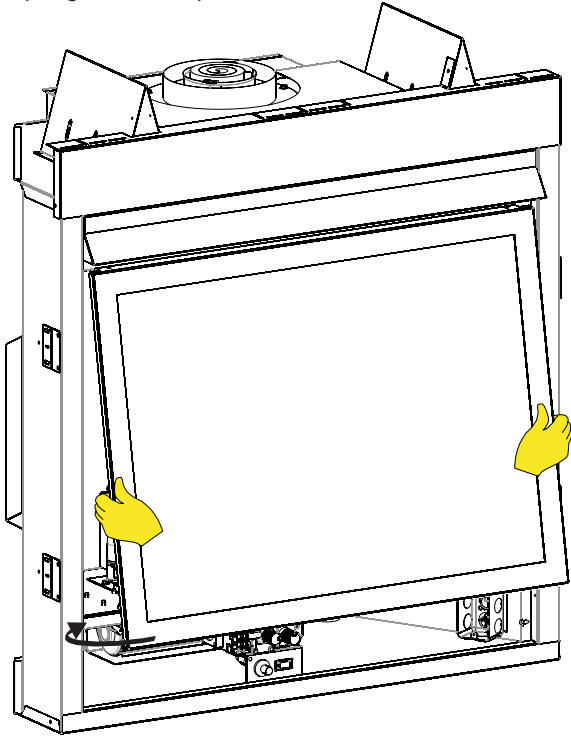

Figure 84
2. Gently lower the glass frame into place. **See Figure 84** for proper glass frame placement.